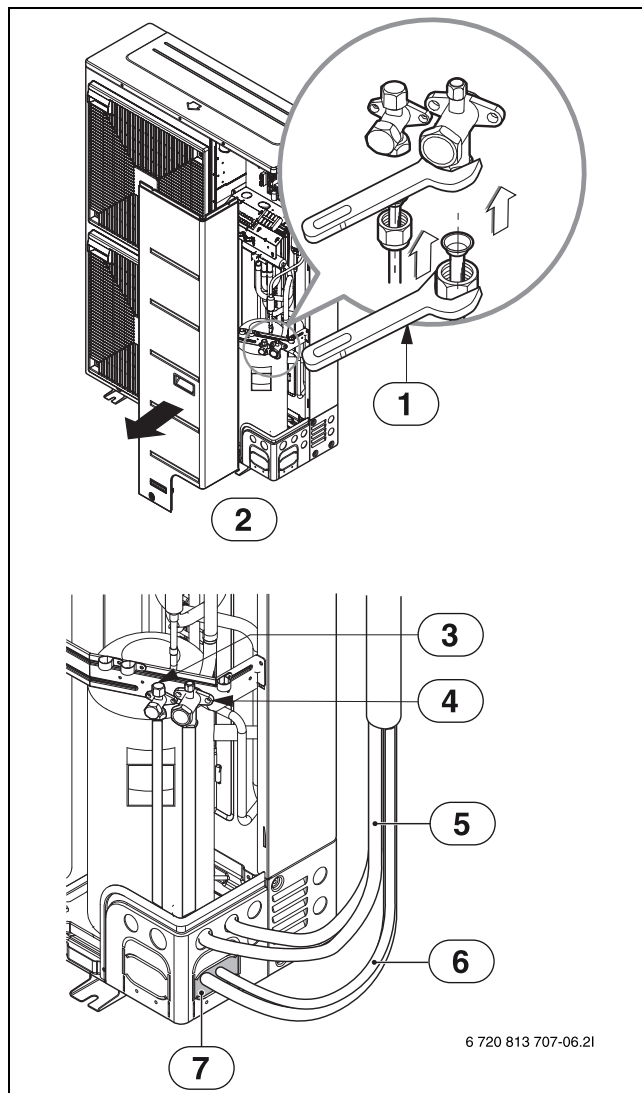

Fig. 23
- Seal the pipe knock-outs with putty or insulating material (to be provided by the customer). Seal all openings (→Fig. 23).